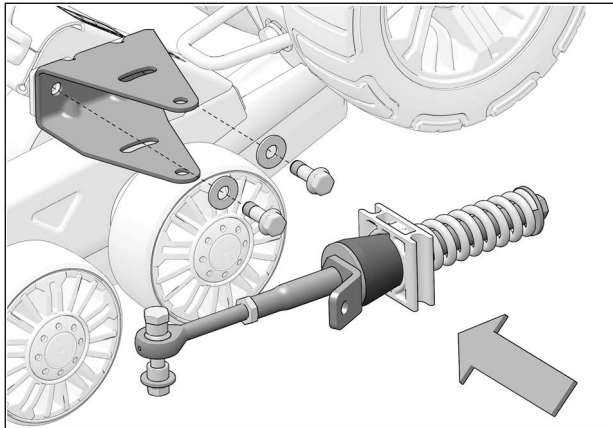

Fig. 14
5. Re-attach anti-rotation bracket using its assembly bolts and washers. Tighten bolts to 50 Nm [37 lb•pi] of torque. Replace anti-rotation arm back into position. See la Fig. 14